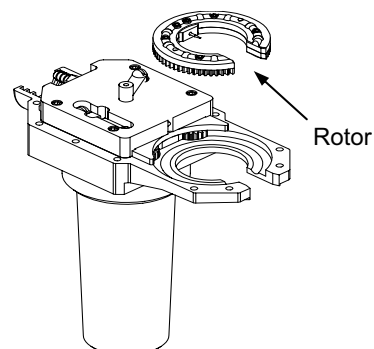

Figure 33 Removing the Rotor
7. Remove the rotor from the motor half of the weld head housing. See Figure 33.